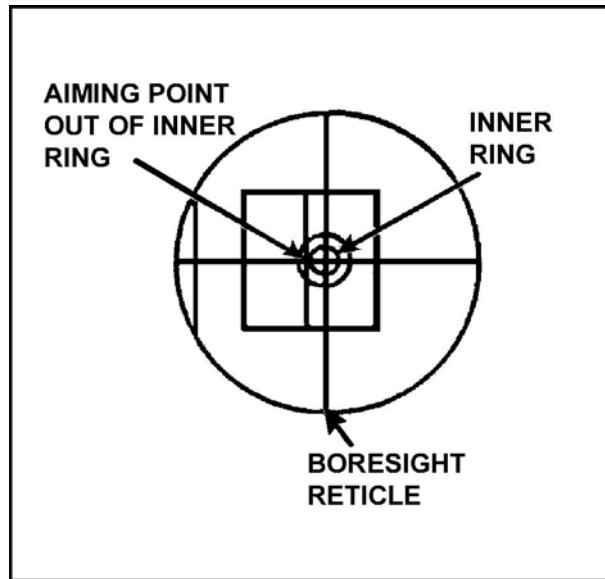

Figure 5. Boresight reticle.
15. Traverse the turret left or right with the traverse handwheel, as directed by the helper, to align the azimuth cross hair in the reticle of the boresight telescope on the aiming point of the target (Figure 5).